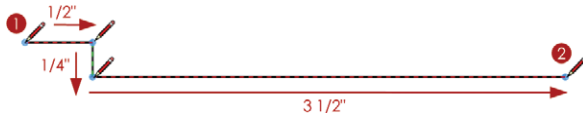

Figure 13.24 Draw the main line for the drawing title.
1. Activate the Line tool, set the stroke width to 1, and turn off the Fill. Click once to start the line (Figure 13.24).